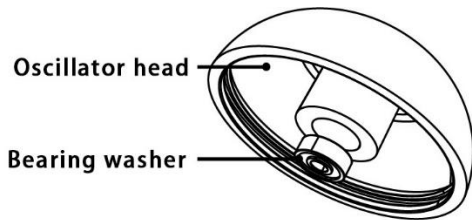

Fig. 2.3.3
1. Place the bearing washer into the oscillator head, as shown in Fig. 2.3.3-2.3.4